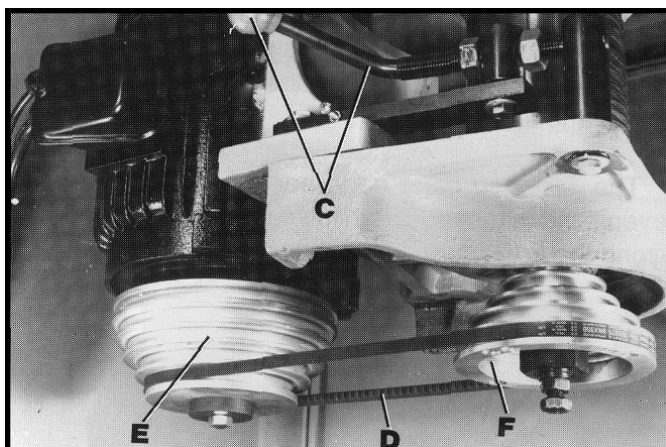

Fig. 43
3. After the belt (D) Fig. 43, is positioned on the desired steps of the motor pulley (E) and spindle pulley (F), move tension lever (C) to the left to apply belt tension as shown.